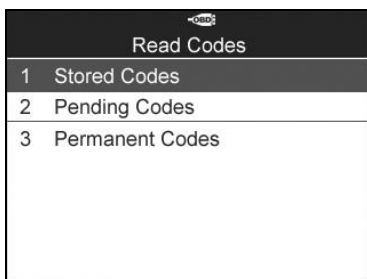

Figure 6.4
- 2) Use the **UP/DOWN** scroll button to select **Stored Codes**, **Pending Codes** or **Permanent Codes** from the **Read Codes** menu and press the **Y** button. (Figure 6.4 )